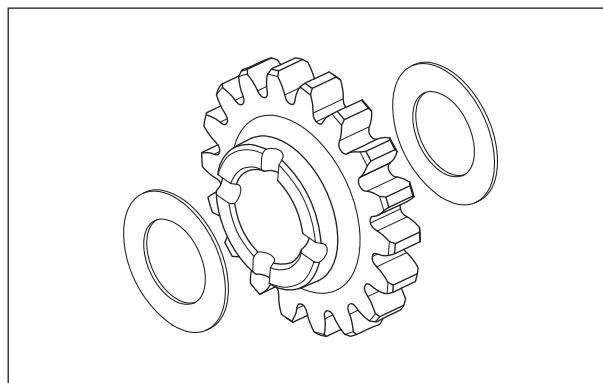

Fig. 3.156
- Take out the idler gear along with shims (11.2x18.5x1 - 2 nos.). (Fig. 3.156)